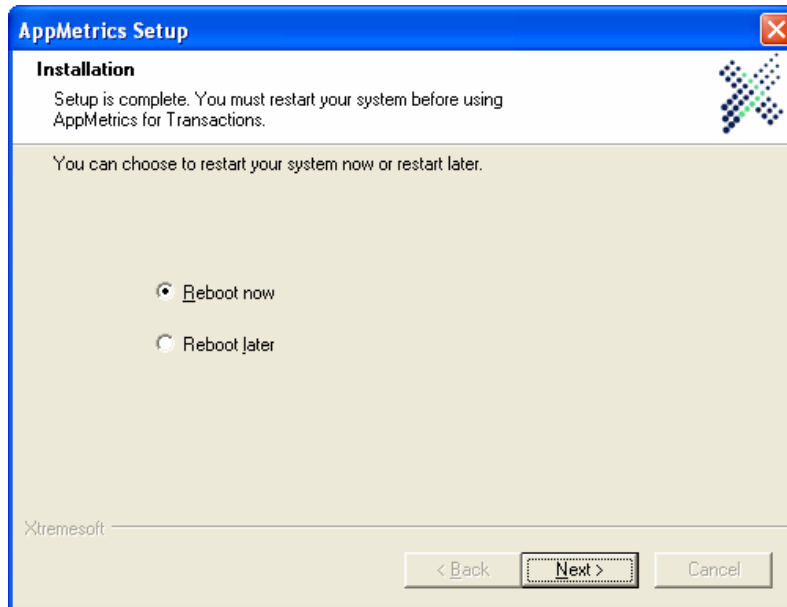

Figure 11
12. Next, choose the **Reboot Now** option for rebooting the server and click **Next** (see Figure 11).